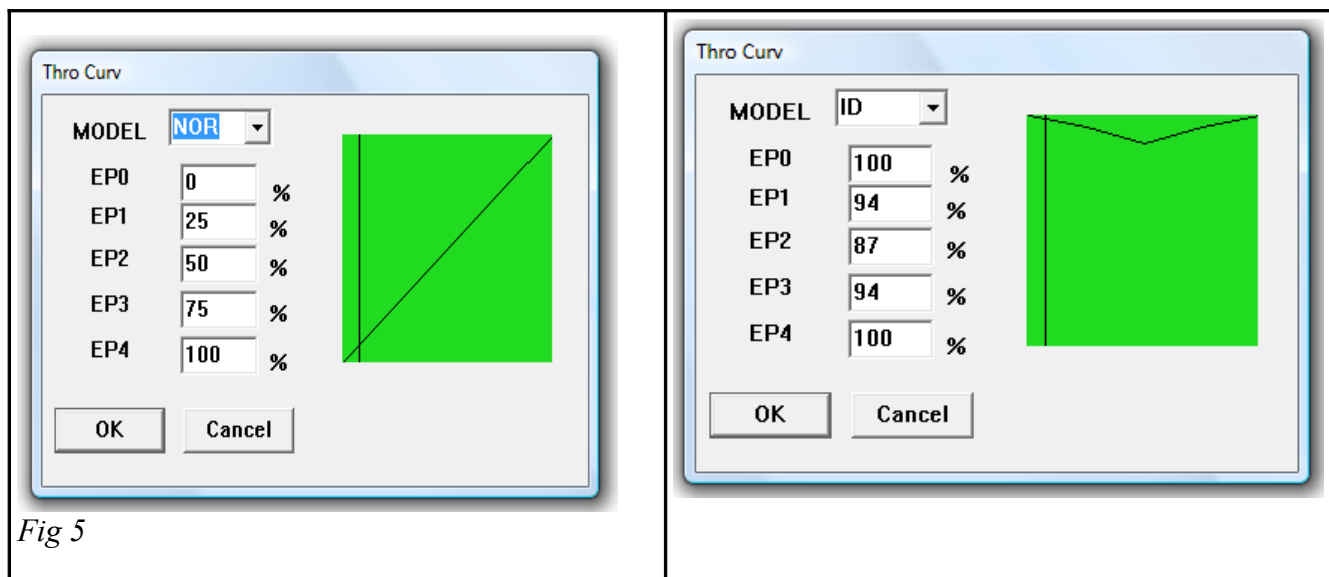

Fig 5
**3.ENDPOINT** – There are two columns of settings. The left column is the UP direction limitation setting, and the right column is the down limitation in percentage. Most helicopter servos are the 60 degree type. They have a center, and can move 30 degrees Clockwise (CW) and 30 degrees Counter-Clockwise (CCW). At this stage in the setup, set all values to 100%. Typically you will not have to revisit this setting unless you have a mechanical interference or some other limiting factor that you need to prevent the servo from traveling too far. Note: the “up” and “down” labels can be misleading. Up may not necessarily mean Servo horn UP movement. It merely means the travel limit in one direction (dependent upon Servo Reversal settings – covered later).
**5.SUBTRIM** – these settings are used to center the servos. At this stage in the setup, set them all to zero (0). You will revisit this option many times as you fine tune the helicopter.
**8.THRO CUV** – The throttle curve setting has two modes. Normal (NOR) and Idle Up/3D mode (ID). At this stage in the setup, select the NOR option from the drop down list and set the values to a linear curve from 0 to 100 (0-25-50-75-100). We will return to this option later to tune the throttle to your motor and flying needs. While you are here, you can set your Idle Up throttle curve as shown below (Fig. 5). Every pilot will defend their choice of throttle curves. This is only a basic setup instruction. Later I will provide hints as to how you can tune these curves to fit your needs, then you can experiment with them.